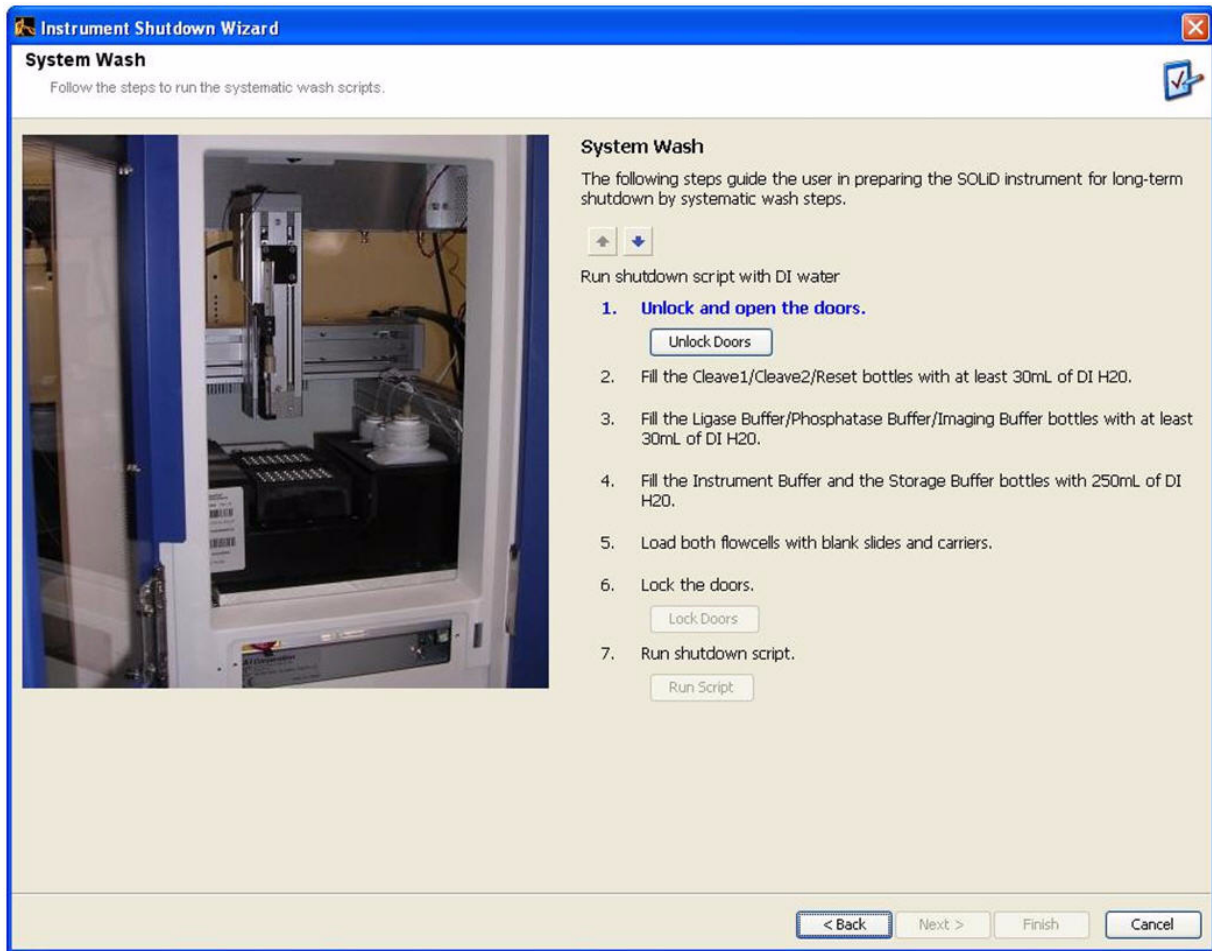

Figure 71 Complete the actions in the first System Wash screen.
3. In the System Wash screen, click **Unlock Doors** (Figure 71 on page 96).